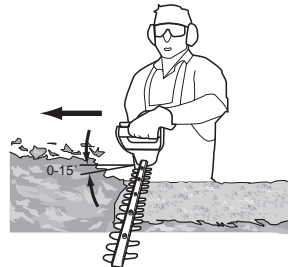

Fig. 6
7. After cutting the sides proceed to the top. Try to keep the cutting device angled at approximately  $15^\circ$  to the cutting surface (Fig. 6).